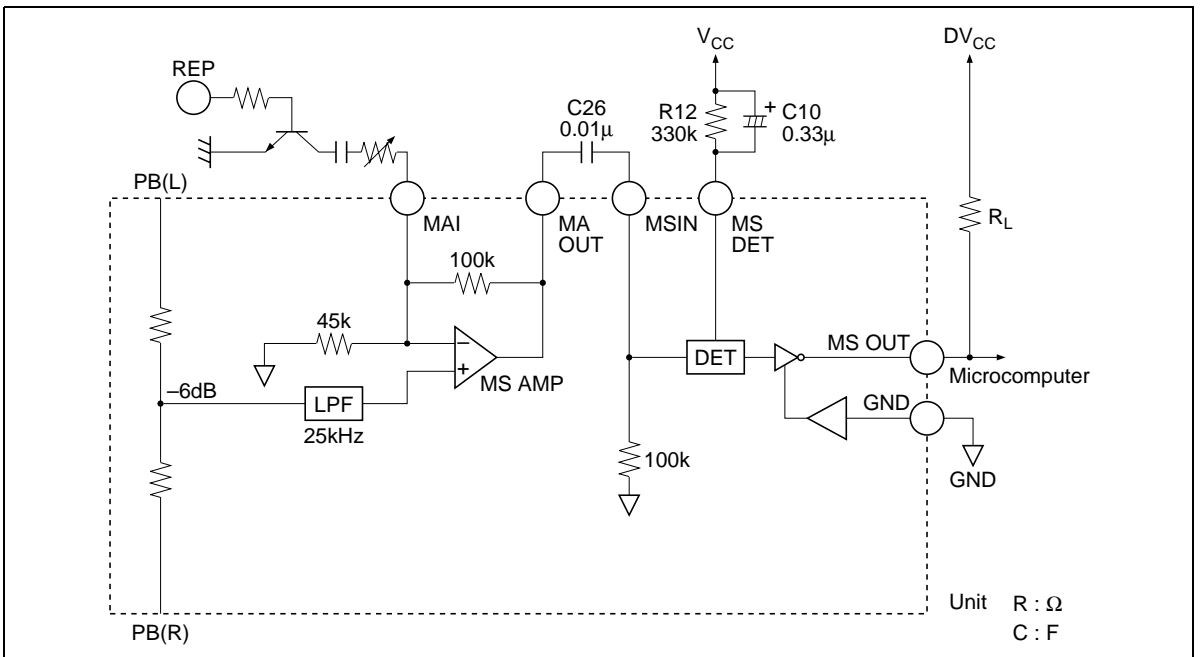

Figure 4 Music Sensor Block Diagram
Occasion of the external component of figure 4, f1 is 159Hz. A standard level of MS input pin 25.9mVrms, therefore, the sensitivity of music sensor (S) can request it, by lower formulas.